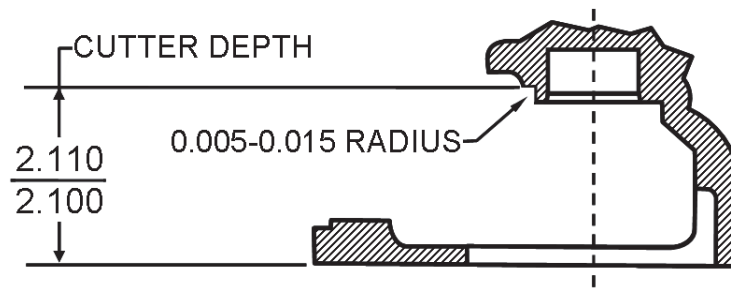

Figure 4. Overhead View of Radius Cut Depth
- b) Cut a 0.005 - 0.015" radius in the outside edge of the starter drive bearing boss at a depth of 2.100 - 2.110" (Figure 4) from the accessory face (see step V. 3. a. 1).